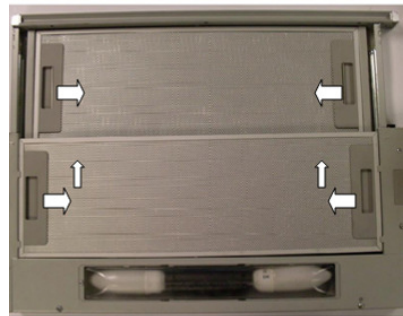

Figure 5: Telescopic extractor hood
2. Pull out the telescopic hood and remove the two metal filters by releasing the grey plastic springs and sliding. (fig. 5)